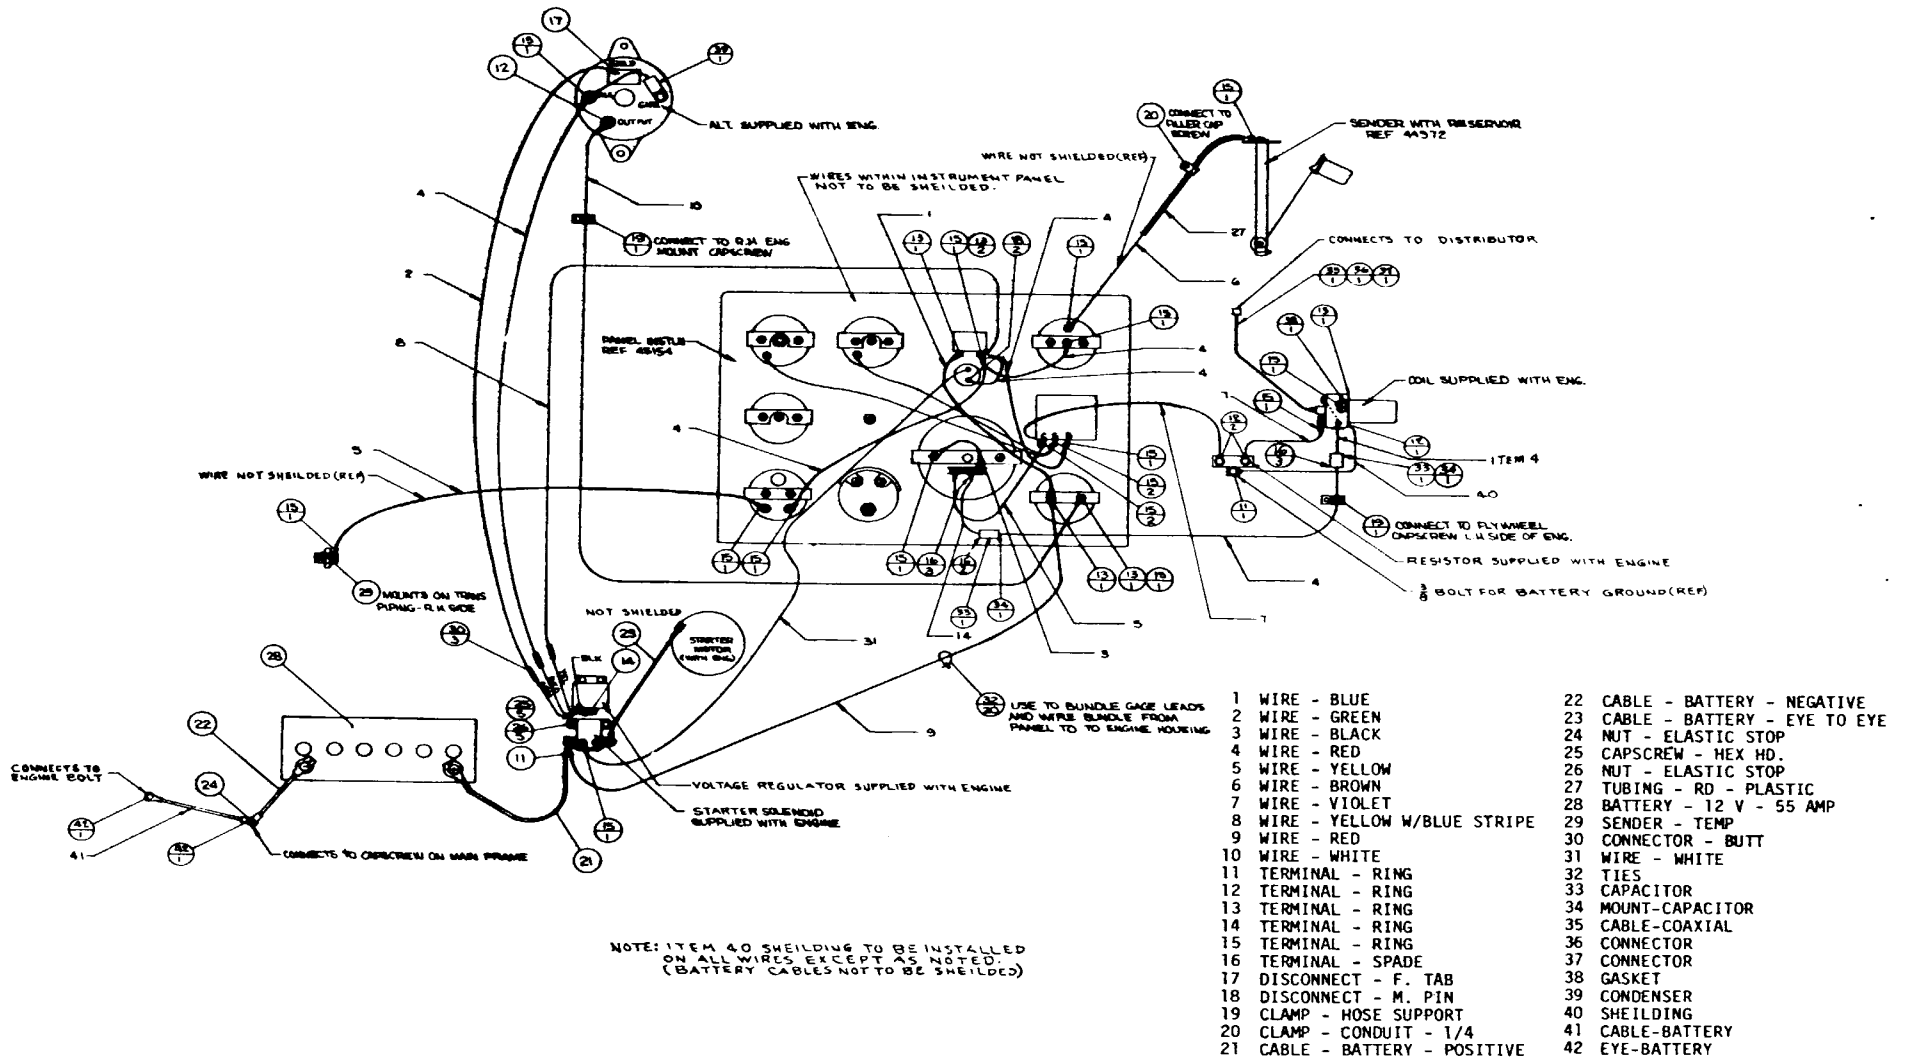

Figure 1-3. Wiring diagram.
(9) *Wiring diagram.* See figure 1-3.